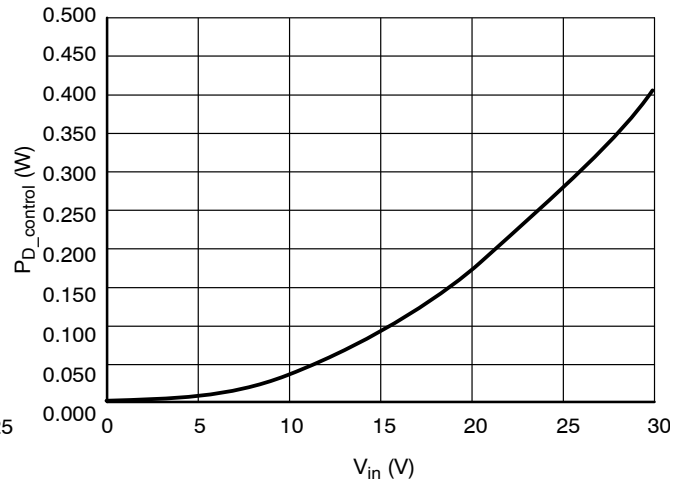

Figure 4. Internal Circuit Power Dissipation vs. Input Voltage
- Establish Power Dissipation on the NUD4001 device's control circuit per Figure 4:
A $P_{D_control} =$ Figure 4, for 12 V input voltage